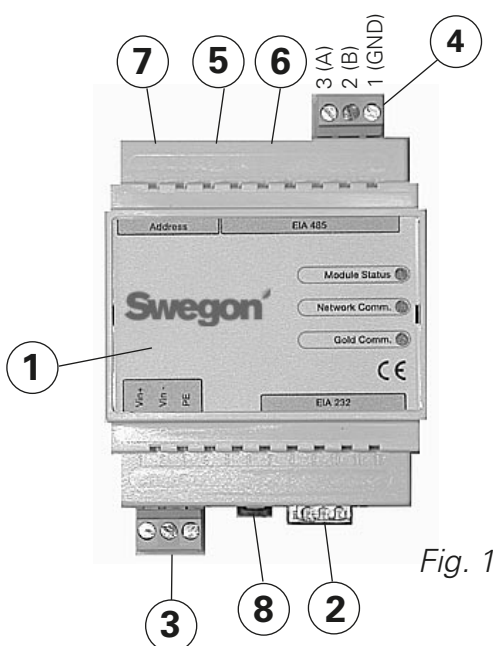
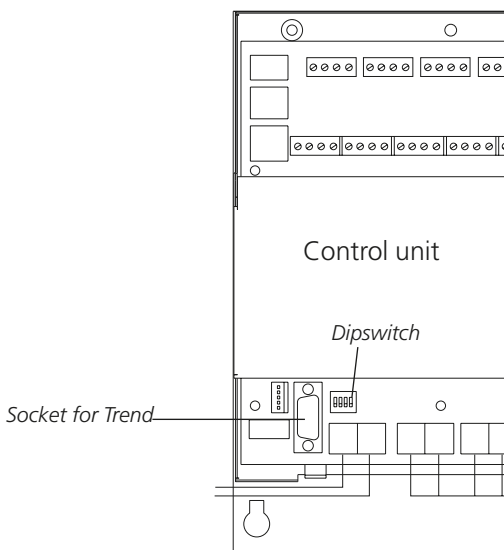
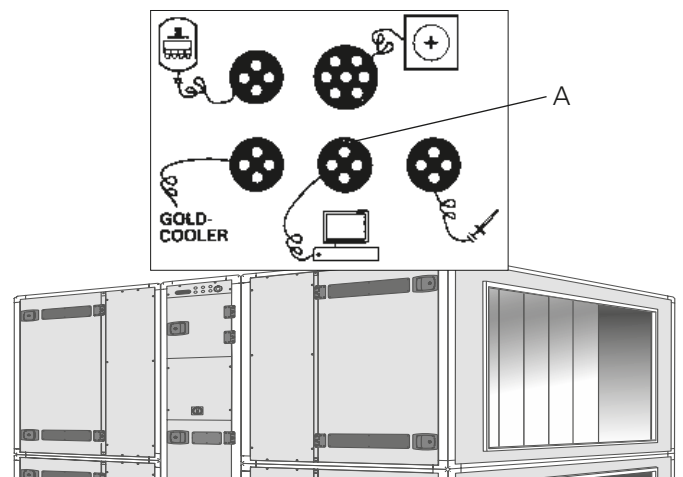

Fig. 1
Fig. 5
Fig. 6
Connect the V in+ (1) and Vin- (2) terminals, see Fig. 1, of the GOLDen GATE unit to a separate network component with the correct capacity or to the GOLD unit's 24V AC terminals depending on the model as described below:
Set any of switches 8 (see Fig. 1) in the ON position while configuring. The switch must be in the ON position before termination of the 24 V supply.
The unit should be without power for 30 seconds before settings are applicable after the configuring is finished and all parameters are saved. Reset all switches back to 8 (see Fig. 1) in the OFF position.
#### Version C/D (see Figures 1 and 4)
#### Version B (see Figure 5)
Use the data communication cable supplied for connecting with 6-pin modular contact RJ12 to 6 (see Fig. 1) and 9-pol D-sub to GOLD (see Fig. 5). Dipswitch 4 on the GOLD unit's control unit must be set to the ON position and dipswitch 3 to the OFF position, see Figure 5.
#### Version 4/A (see Figure 6)
Use the data communication cable, supplied, with 6-pin modular contact RJ12 to 6 (see Fig. 1) and the round contact to the GOLD (see Fig. 6).